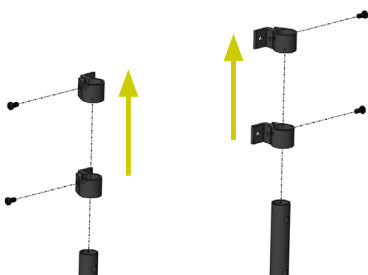

Figure 7
1. Loosen the screws that clasp the back brackets and move them up along the tubes of the back frame according to figure 7.